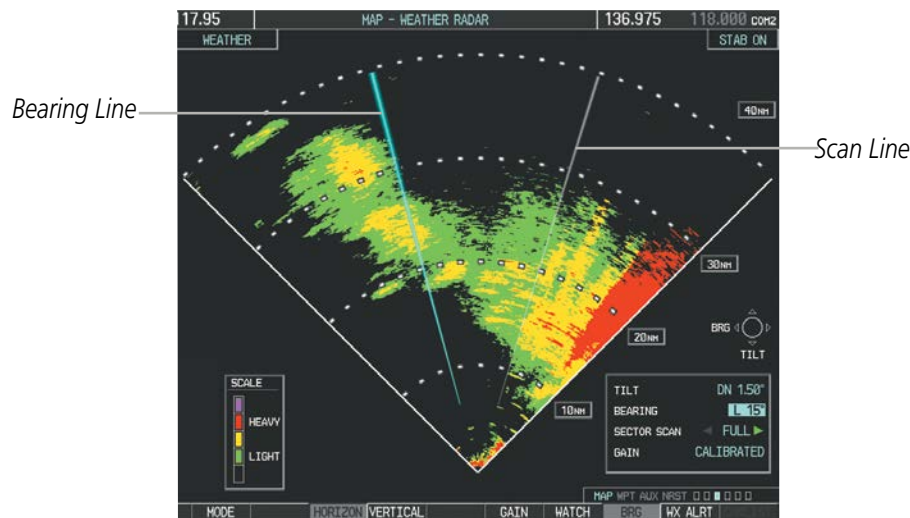

Figure 6-107 Bearing Line on Horizontal Scan
- 5) The horizontal scan is initially displayed (Figure 6-107). If desired, press the **VERTICAL** Softkey to change to vertical scanning.